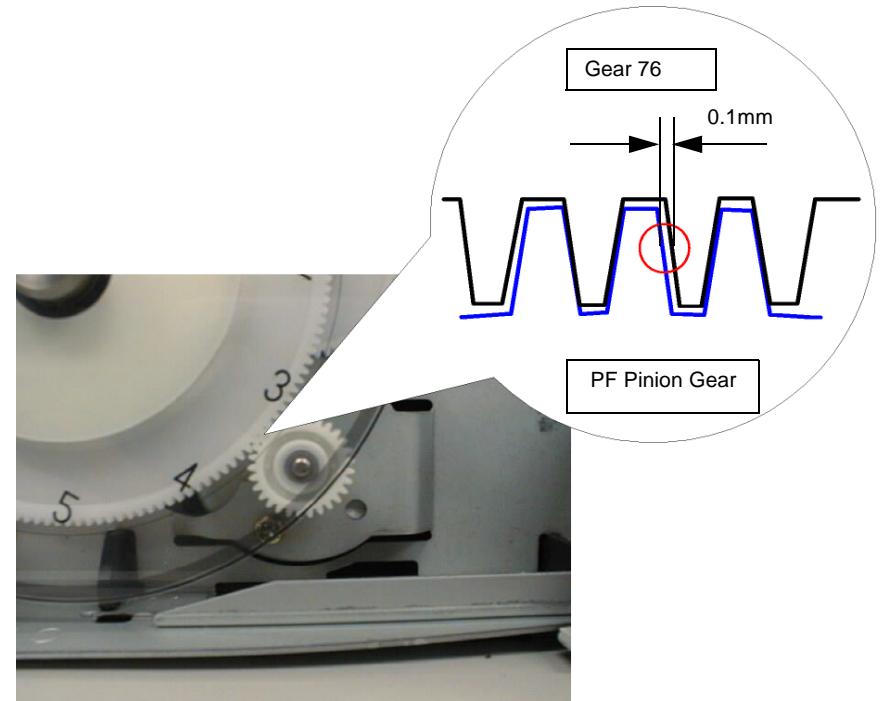

Figure 5-8. Check the backlash value
7. In case the above adjustment procedural is completed, check the backlash value between the Gear 76 and the pinion gear of the PF motor by using Micro scoop. Refer to the Figure 5-8.